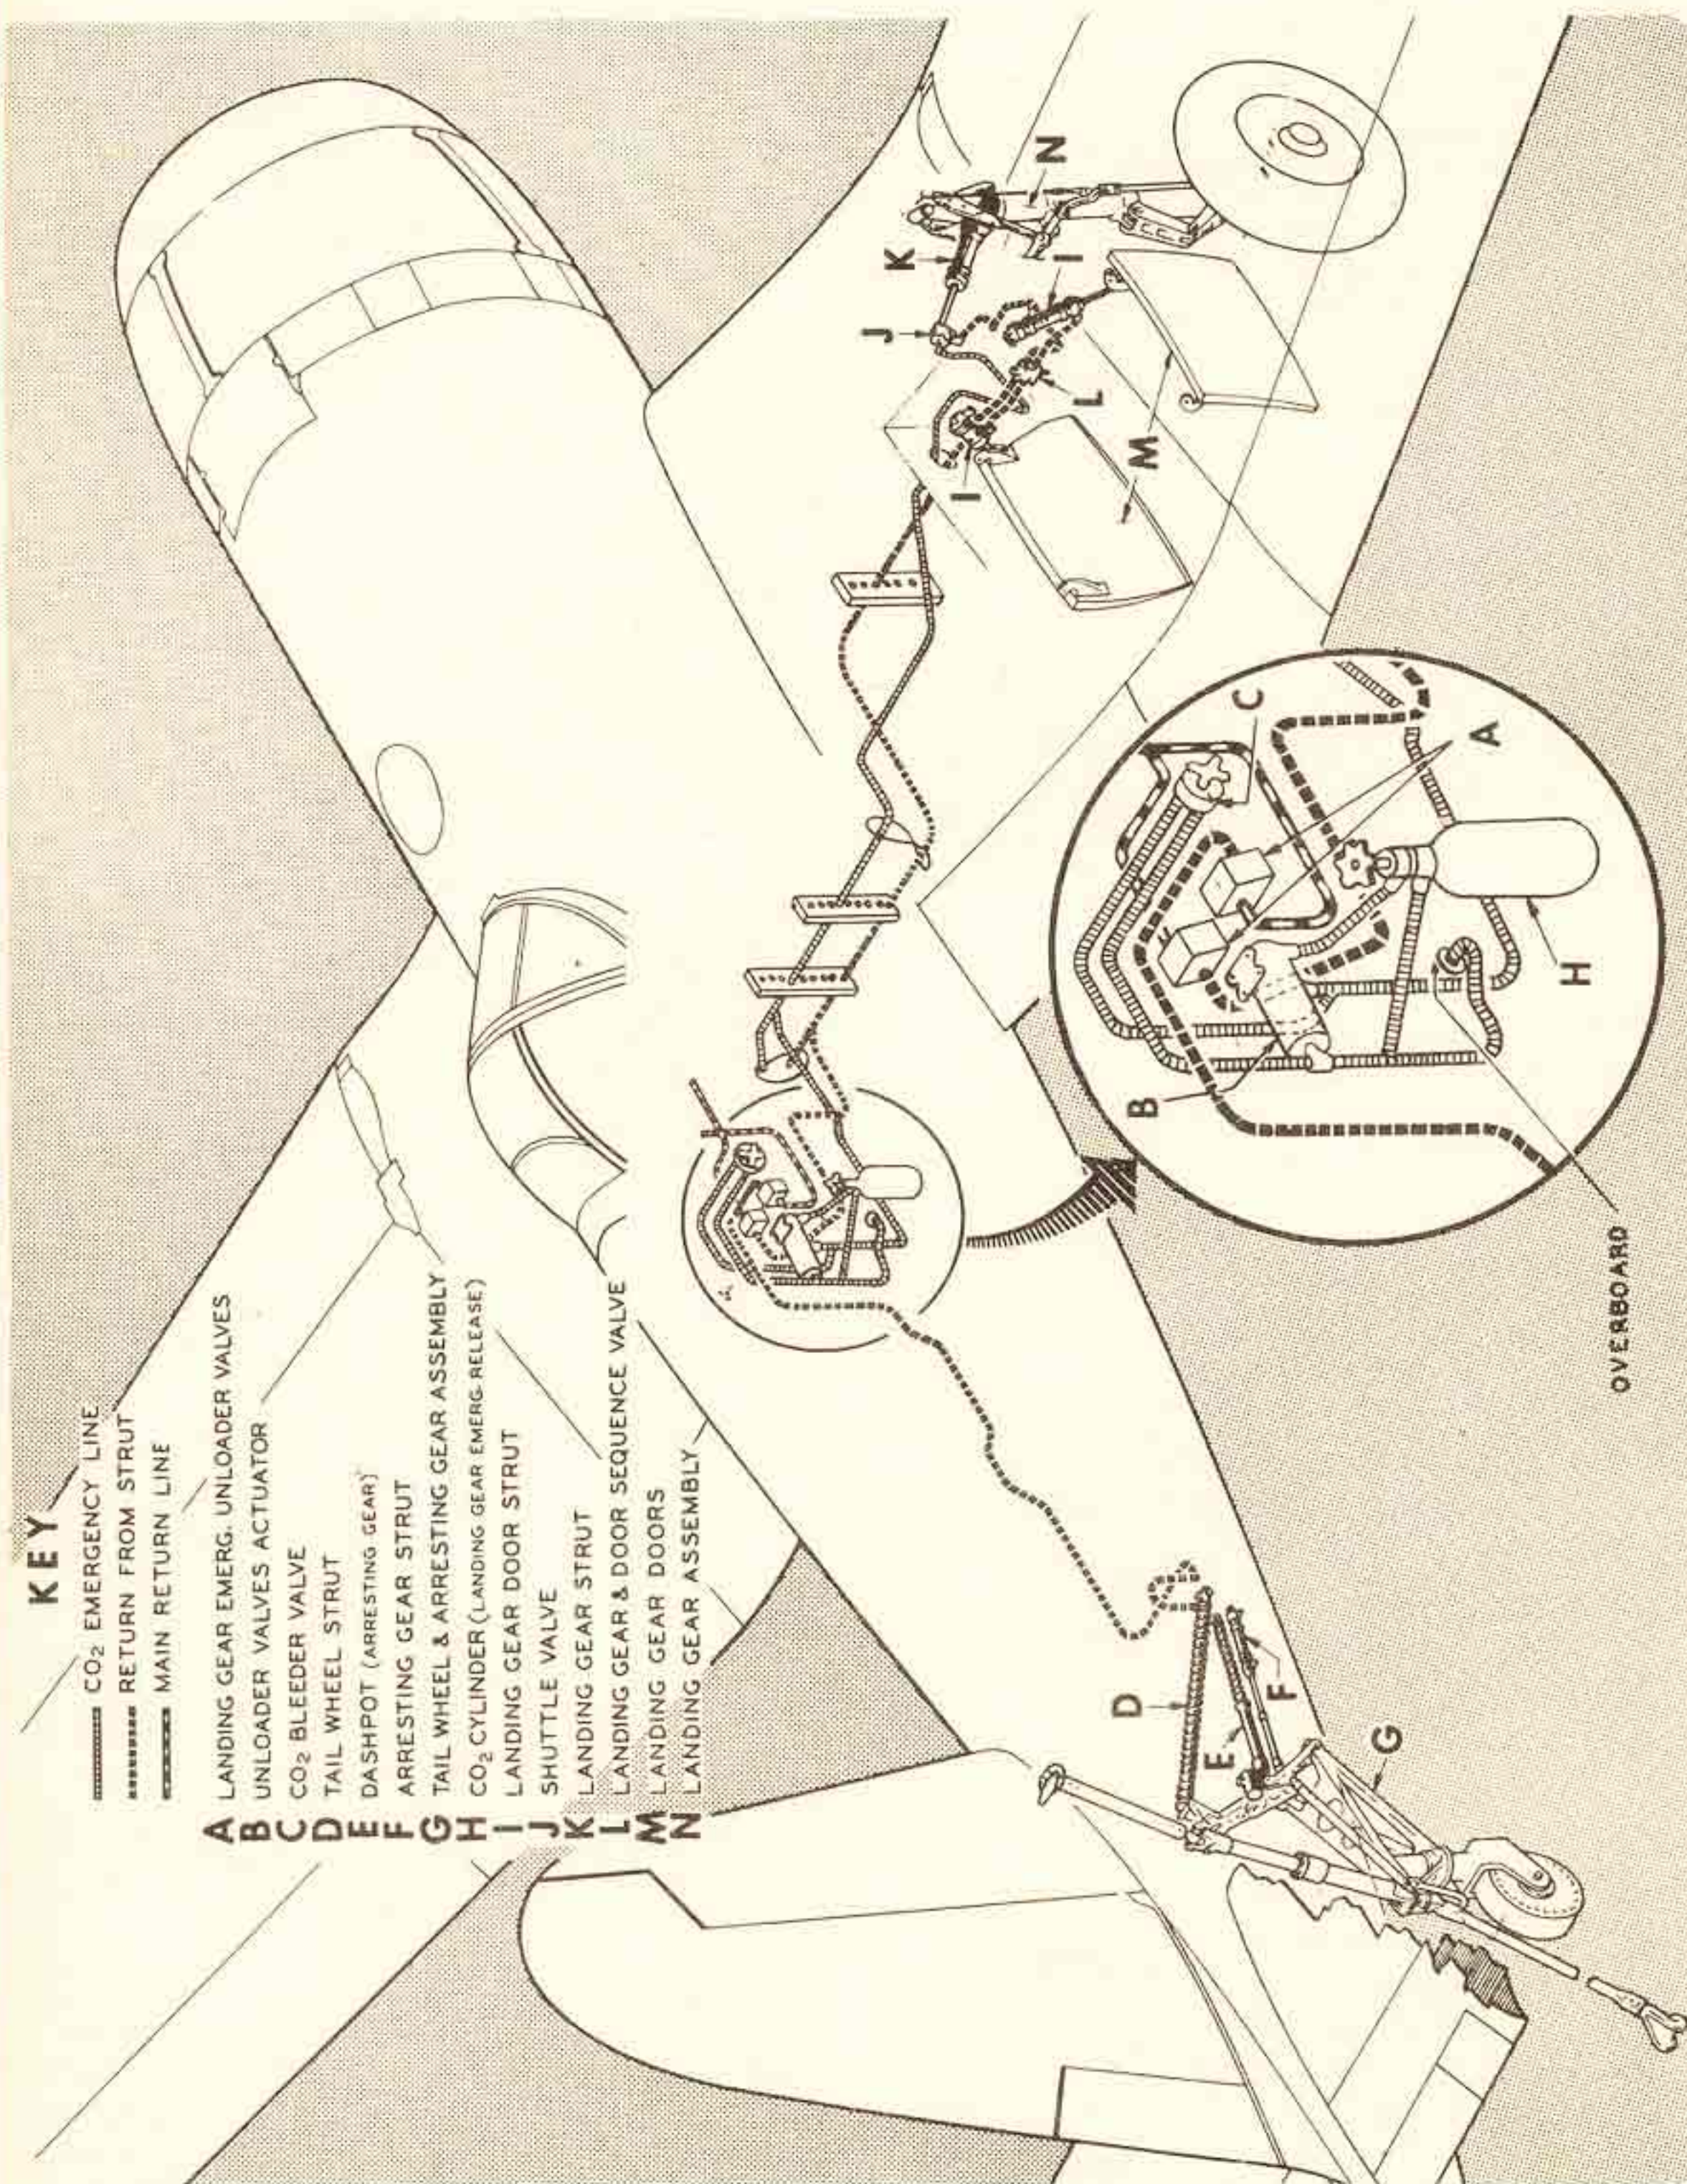

Figure 28—CO₂ System—Emergency Landing Gear Operation
a. The landing gear can be extended if there is complete failure of the hydraulic system, that is, even if no action can be obtained by operating the hand pump. The emergency gear extension is actuated by a CO₂ system on the main gear and a spring system on the tail wheel (see figure 28). However, before resorting to emergency landing gear extension, attempt to lower the gear with the hand pump, since subsequent retraction may be desired and will be impossible once the CO₂ system is operated. To lower the landing gear with the hand pump:
- (1) Move the landing gear control to "DOWN."
- (2) Operate the hand pump until the landing gear indicators show that the gear is fully down and locked.